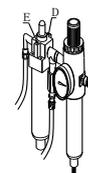

Fig 9
Empty water in the air filter once every day, to ensure the cylinder performance. Following maintenance must be done at least once per month: check oil level in oil fog maker, please top up with SAE30# oil if need, depress pedal for locked tyre 5-6 times, check whether oil in oil fog maker was leakage, continued operation, depress twice every time, drop down a dripping oil, otherwise adjust screw (E) that controlled oil enter with minus screwdriver. (Fig 9)